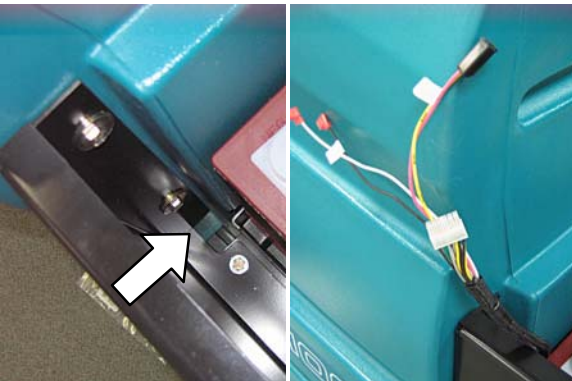
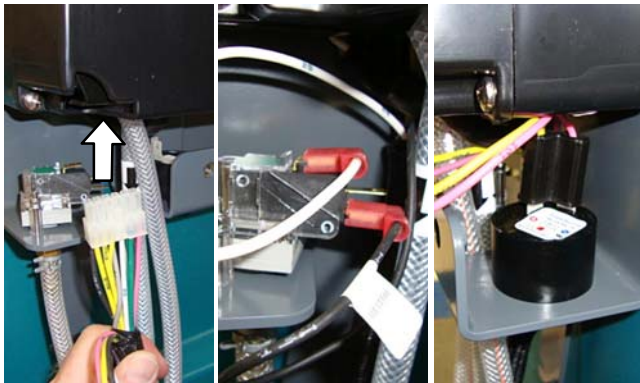

Fig. 20
Fig. 33
6. Connect the *ec-H2O* harness wires (Figure 20) to Module assembly (Figure 33).